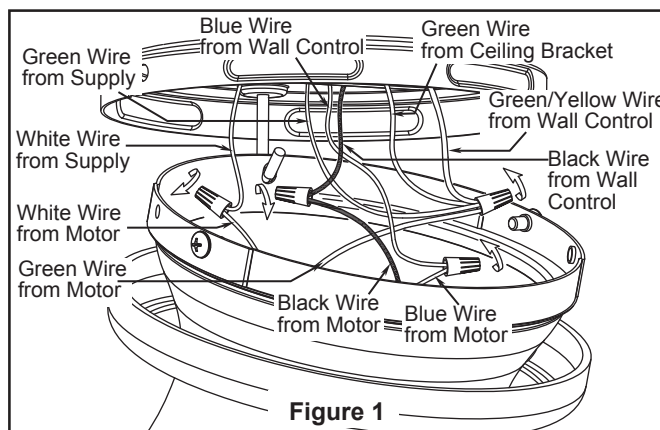

Figure 1
2. After splicing and making the wire connections, the wires should be spread apart and turned upward with the grounded conductor and the equipment-grounding conductor on one side of the ceiling bracket and the ungrounded conductor on the other side of the ceiling bracket. (Figure 1)